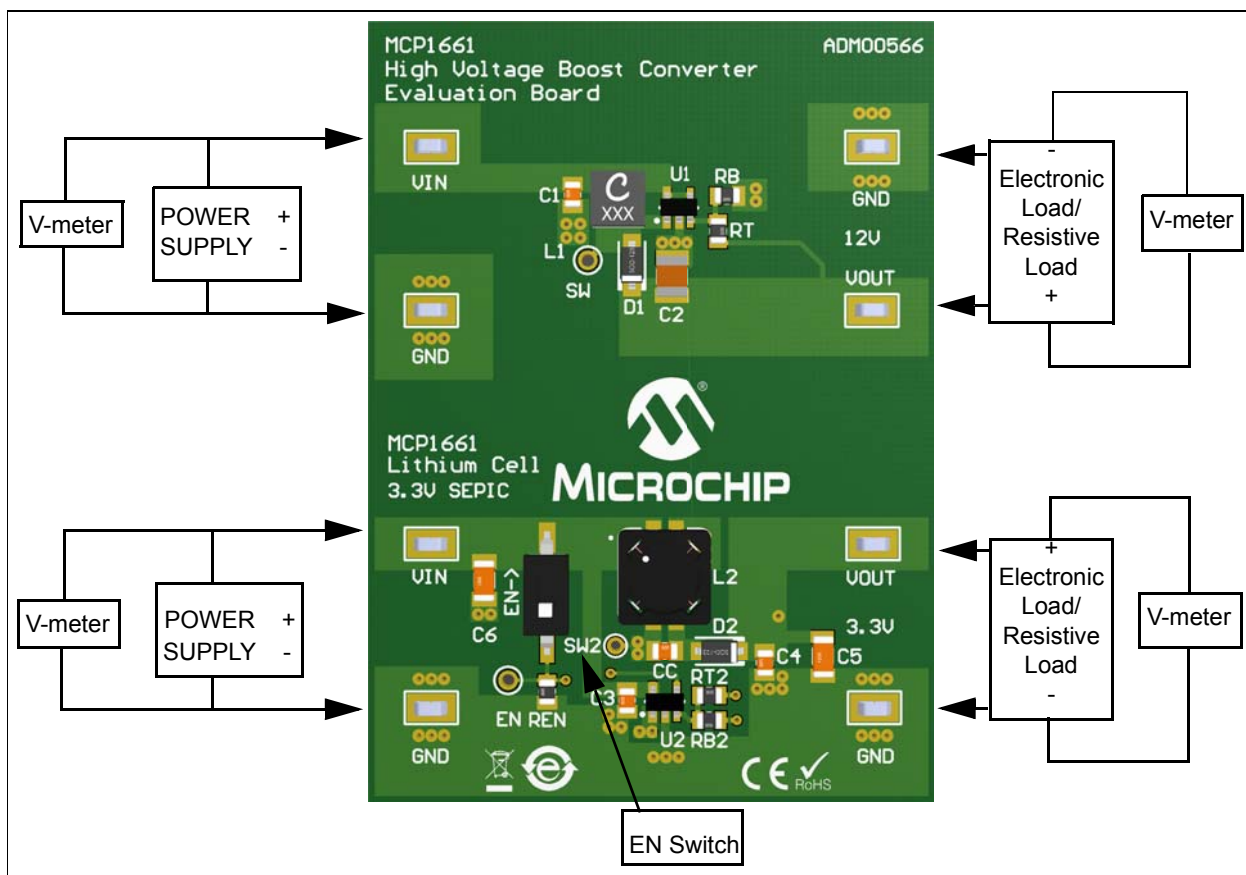

FIGURE 2-4: MCP1661 High Voltage Boost Converter & SEPIC Converter Evaluation Board Setup.
1. Connect the input supply as shown in Figure 2-4. The input voltage should not be higher than 5.5V.